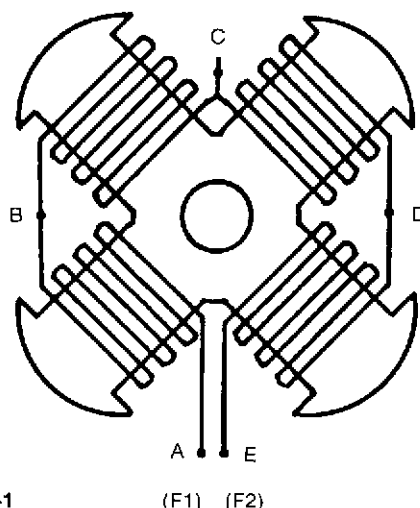

FIGURE 8-1
Step 3: Measure and record voltages across each pole. Between points "A" and "B", "B" and "C", "C" and "D", "D" and "E" (Figure 8-1).